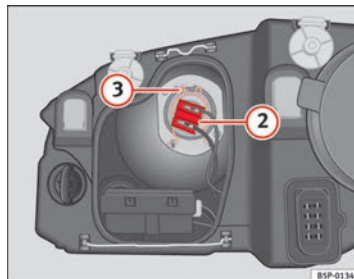

Fig. 189 Dipped beam headlights
- Remove the connector ⇒ fig. 189 ② from the bulb.
- Unclip the retainer spring ⇒ fig. 189 ③ pressing inwards to the right.